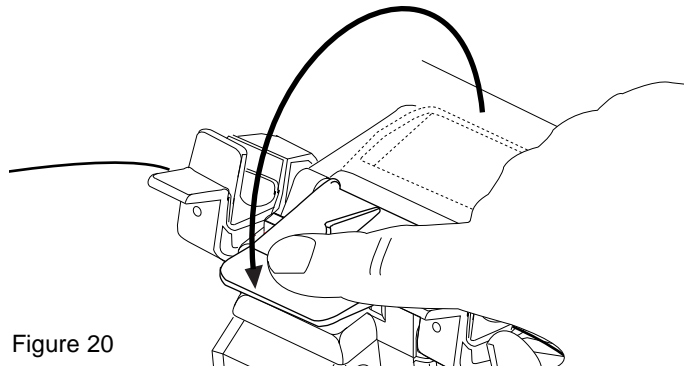

Figure 20
- d) Seal the Splice Pak protector by swinging down the fixtures' pressure arm (Figure 20).